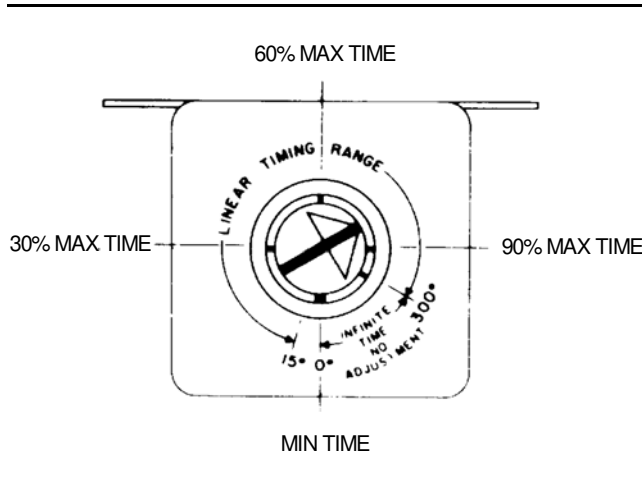

Figure 2
4.1. Hermetically Sealed Models (Figure 2)